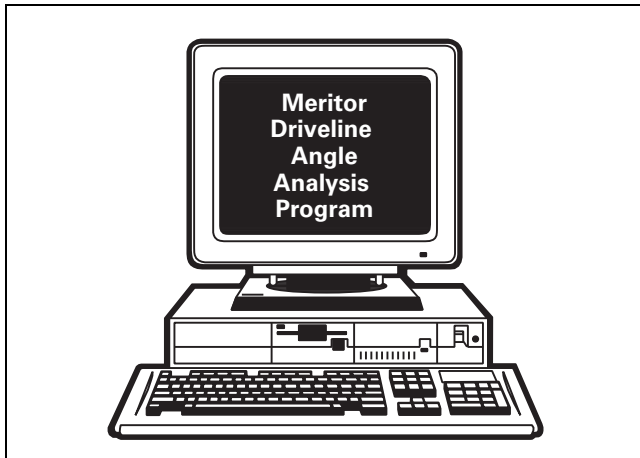

Figure 13.21
3. You are now ready to enter the dimensions you recorded on the Data Gathering Worksheet into the Meritor Driveline Angle Analysis Program on the disk included with this manual. Figure 13.21.